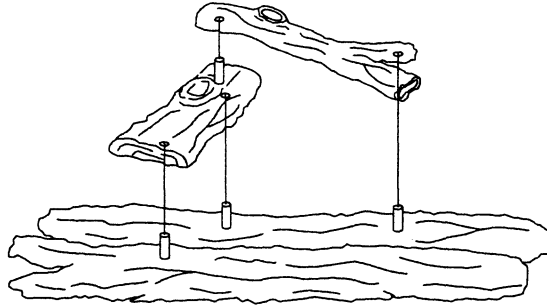

Figure 12
1. Place the front and rear lower logs as shown in Figure 12 below: